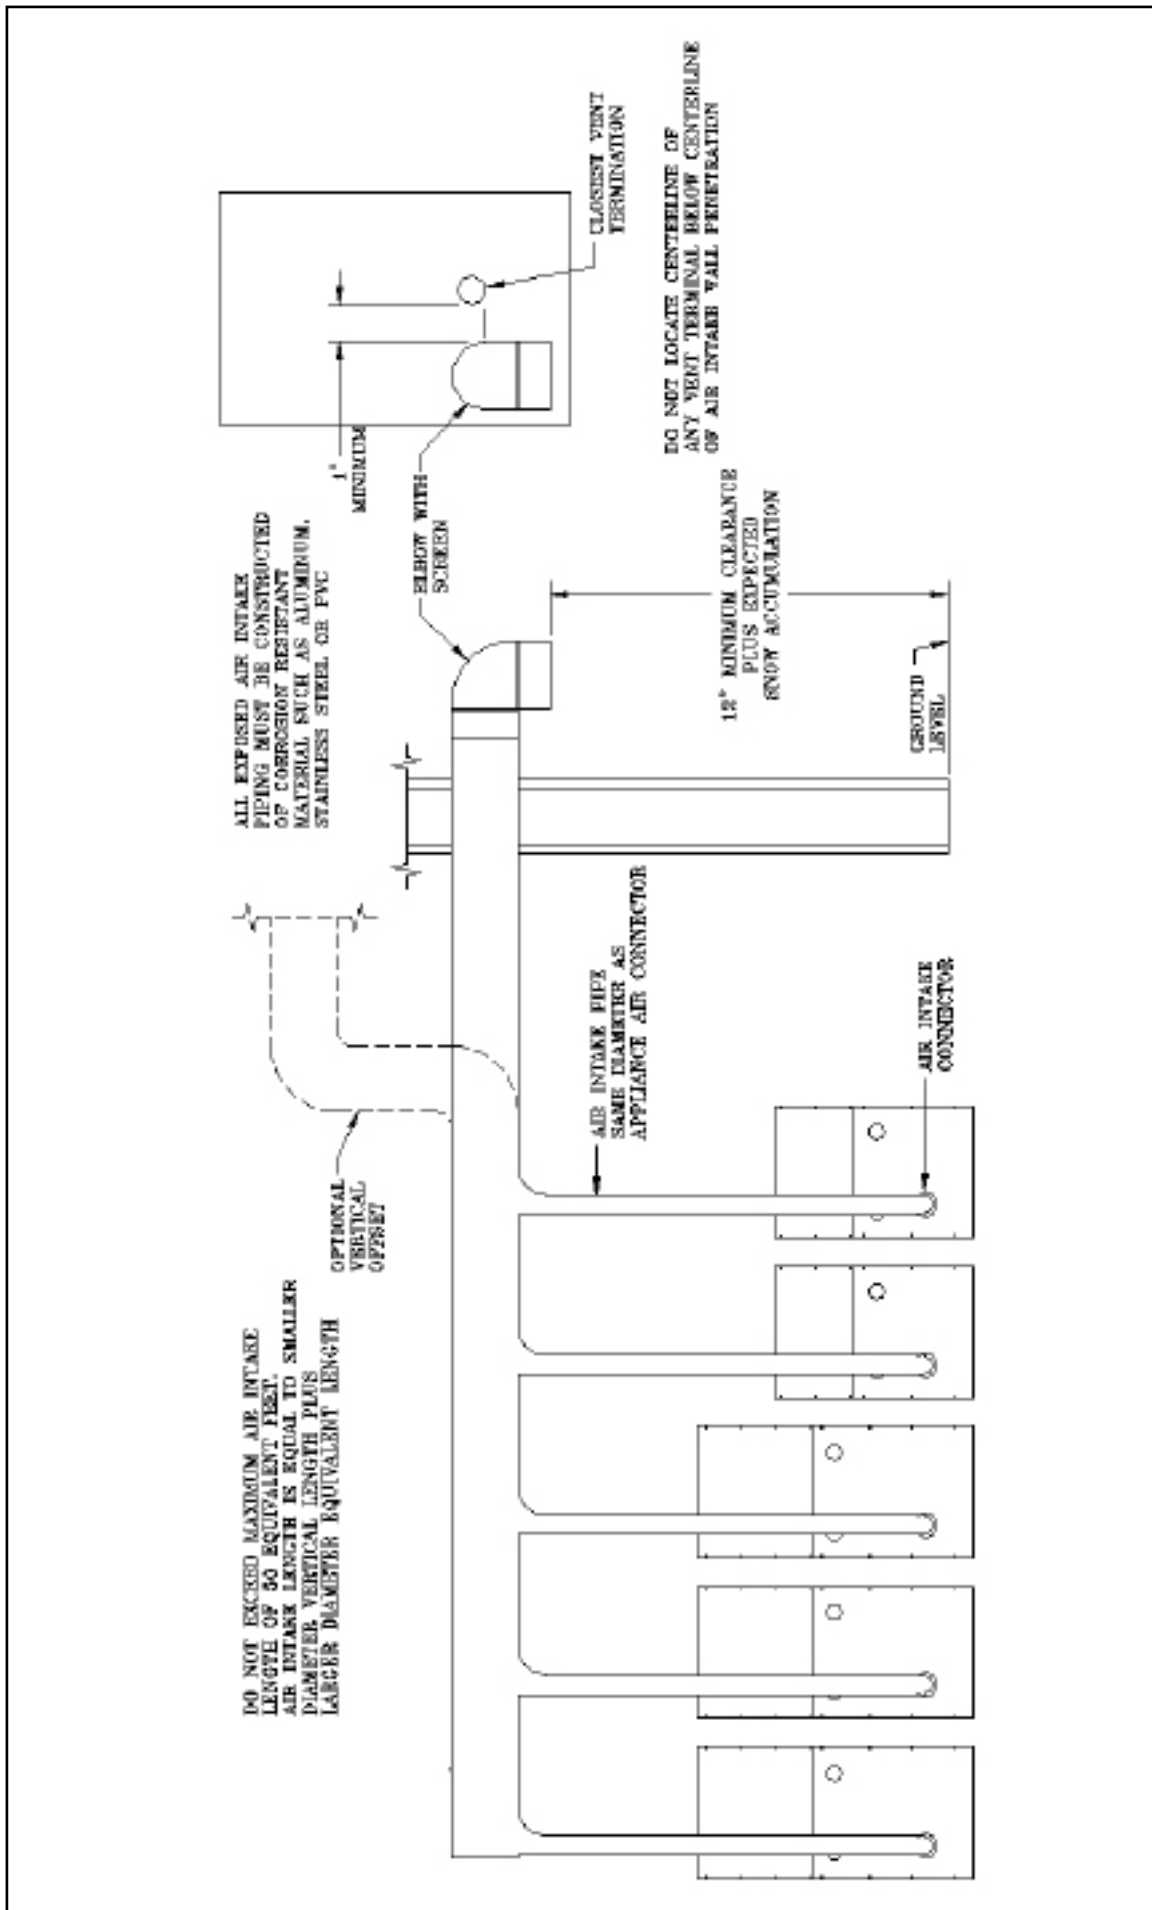
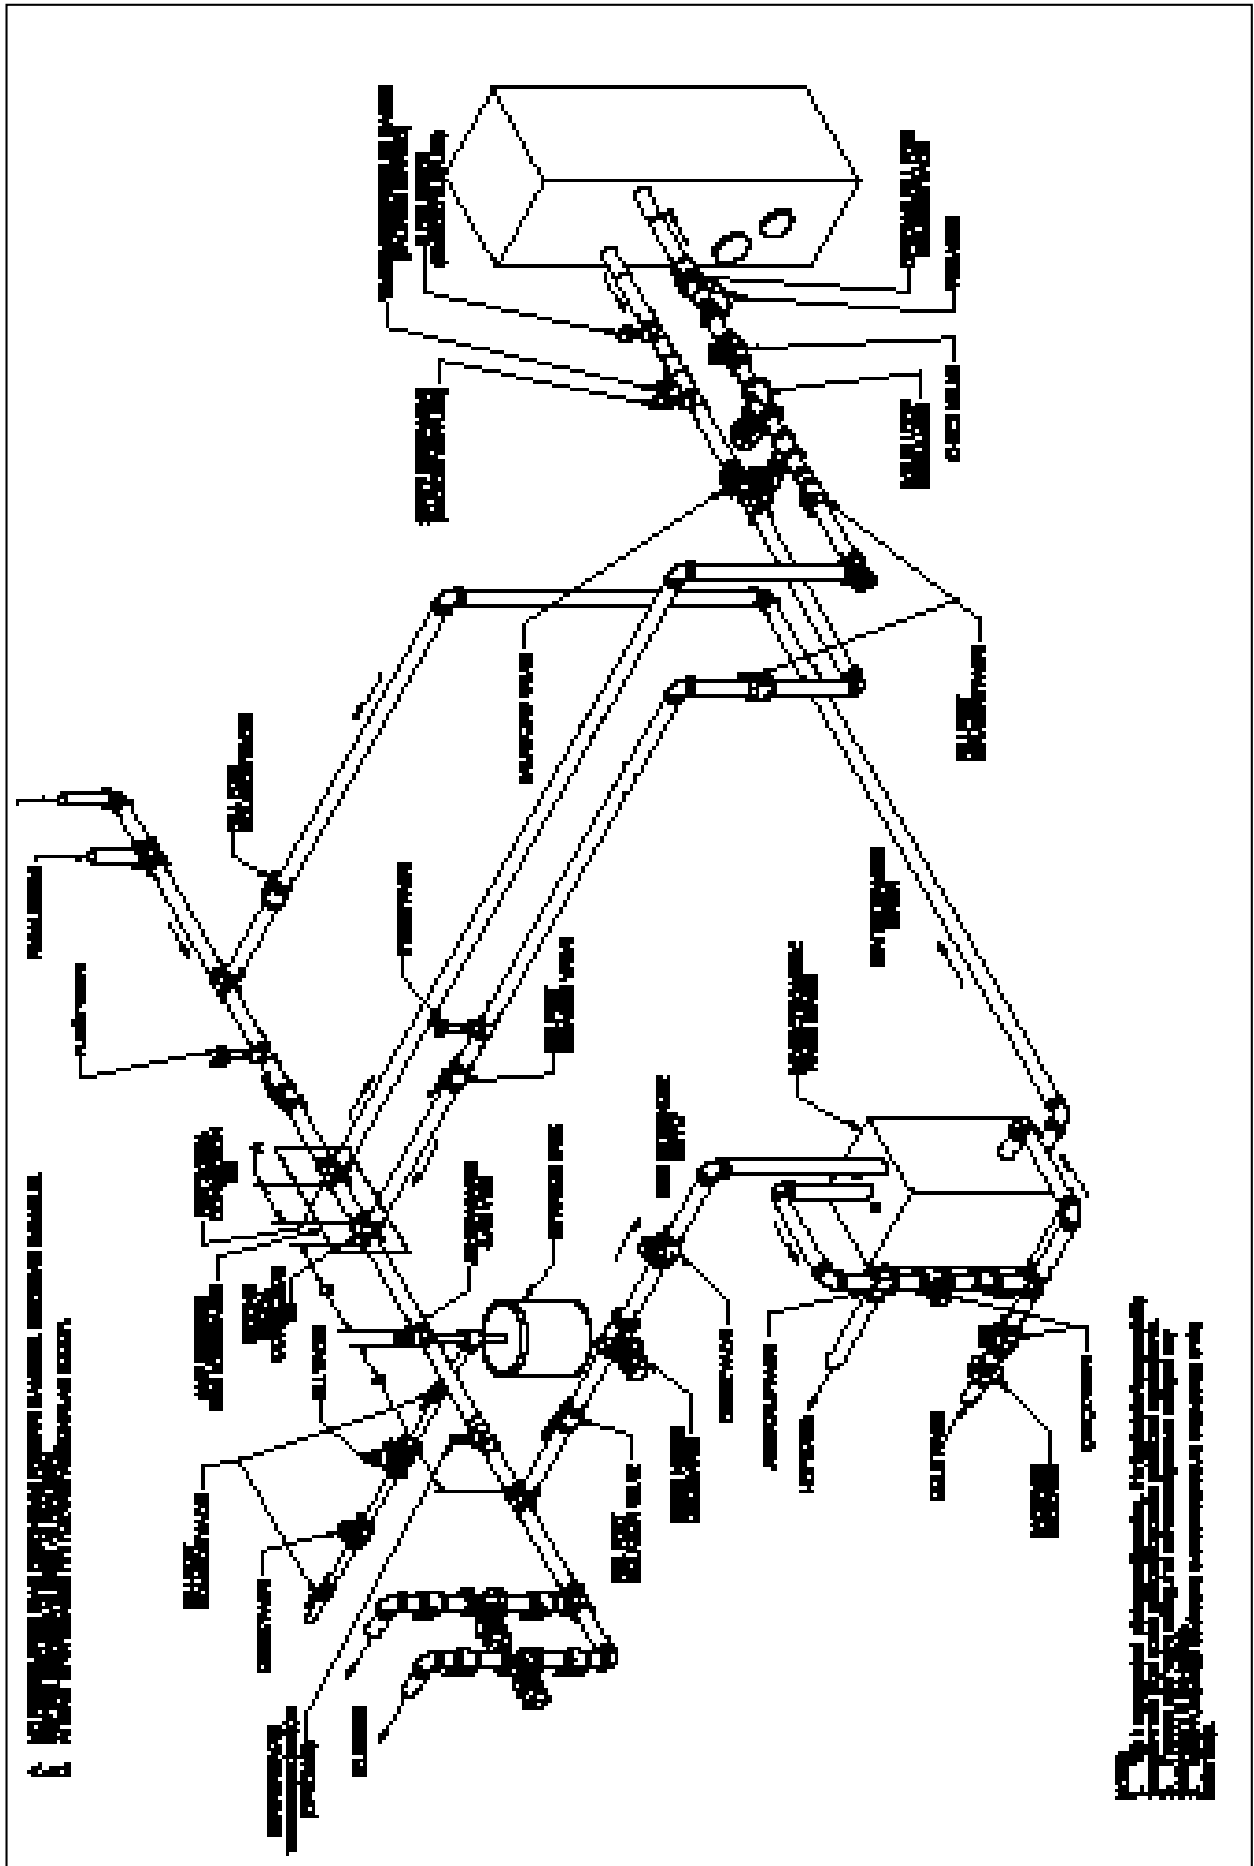

Figure 11: Modular System Horizontal Air Intake Piping
Figure 13: Near Boiler Water Piping with Domestic Hot Water
- b. Refer to Figures 11 and 12 for common air intake guidelines for modular boilers.
- f. Vertical air intake pipe must terminate at least two (2) feet above the closest portion of the roof.
- a. Refer to Figures 13 thru 15 for typical water piping for modular boilers.